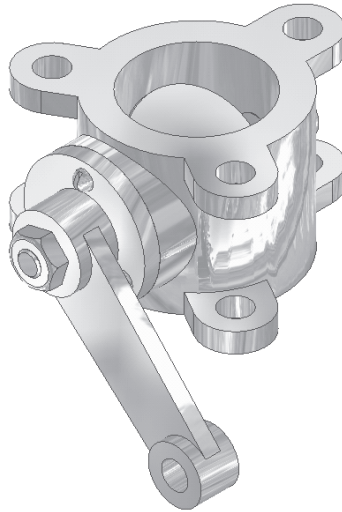

Figure 8-46 Final Butterfly Valve assembly
2. Similarly, right-click on the Arm in the browser and choose **Visibility**. The display of the Arm will be turned on in the assembly. Choose the **Zoom All** button from the **Inventor Standard** toolbar. The final Butterfly Valve assembly is shown in Figure 8-46.